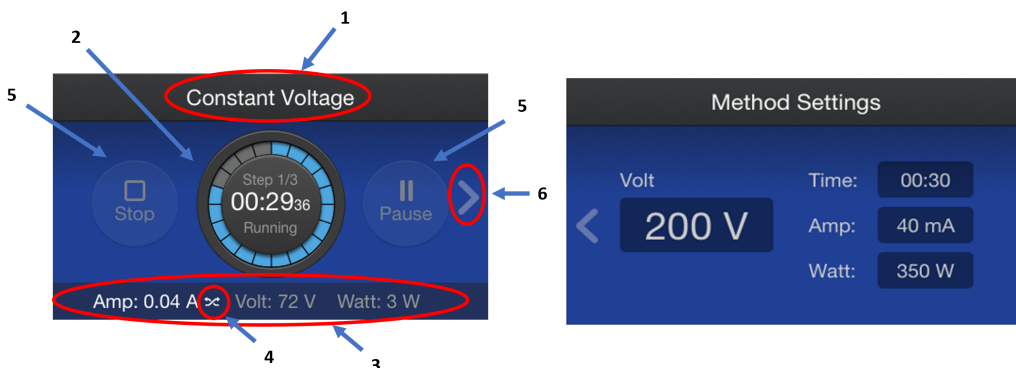

Figure 12 Run screen and Methods Settings screen
7. Touch **Start run** to begin the run. When the run begins, the **Run** screen will display (See Figure 12).
Once the run has started, the **Run** screen will display real time parameter values. To view run parameters as they were set, touch the **right** arrow to view the **Method Settings** screen (see Figure 12).
The name of the method will be displayed at the top of the screen. If the method is an un-named custom method, the name displayed will be the method type (Constant Voltage, Constant Current, or Constant Power). The method displayed in Figure 12 is a custom constant voltage method.
As an example: If the method uses constant voltage of 200 V, but the power supply reaches 3 A (the power supply maximum) before 200 V is reached, the power supply will automatically switch to a constant current of 3 A with the voltage floating. If at some point conditions of the run change (resistance increases and current drops) such that 200 V can be delivered with less than the power supply maximum current (3 A), the power supply will automatically revert back to the set method constant parameter (200 V in this case) and the crossover icon will no longer be displayed. Figure 12 shows a run with crossover to A and current limited to 0.04 A. For additional details, see Appendix A, “Troubleshooting”.
Touch this arrow to display the **Method Settings** screen (Figure 12). This screen shows parameter settings for the step currently being run. From this screen, touch the **left** arrow to return to the **Run** screen.
The **Method Settings** screen (see Figure 12) displays voltage, current, power, and run time for the method. Time is shown in hours : minutes format. If the method has more than one step, there will be a separate method screen for each step. Use the **right** and **left** arrows to move between screens for individual steps.